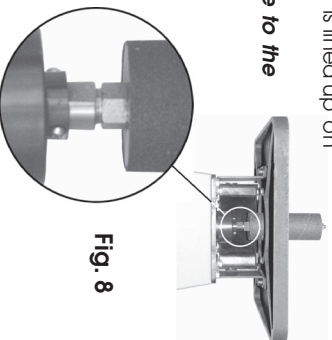

Fig. 8
2. Remove front cover to expose Arbor base and spindle (see Fig. 8).